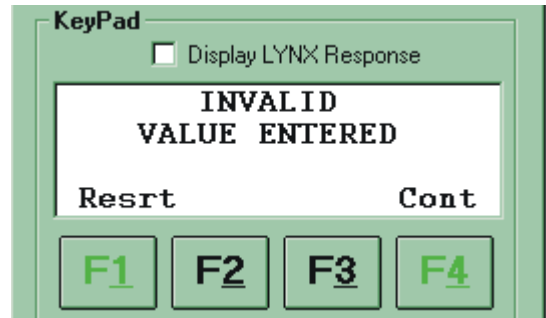

Figure 4.19: Screen 3 Setup
- 2] Enter the text into the display window as shown in figure 4.19.